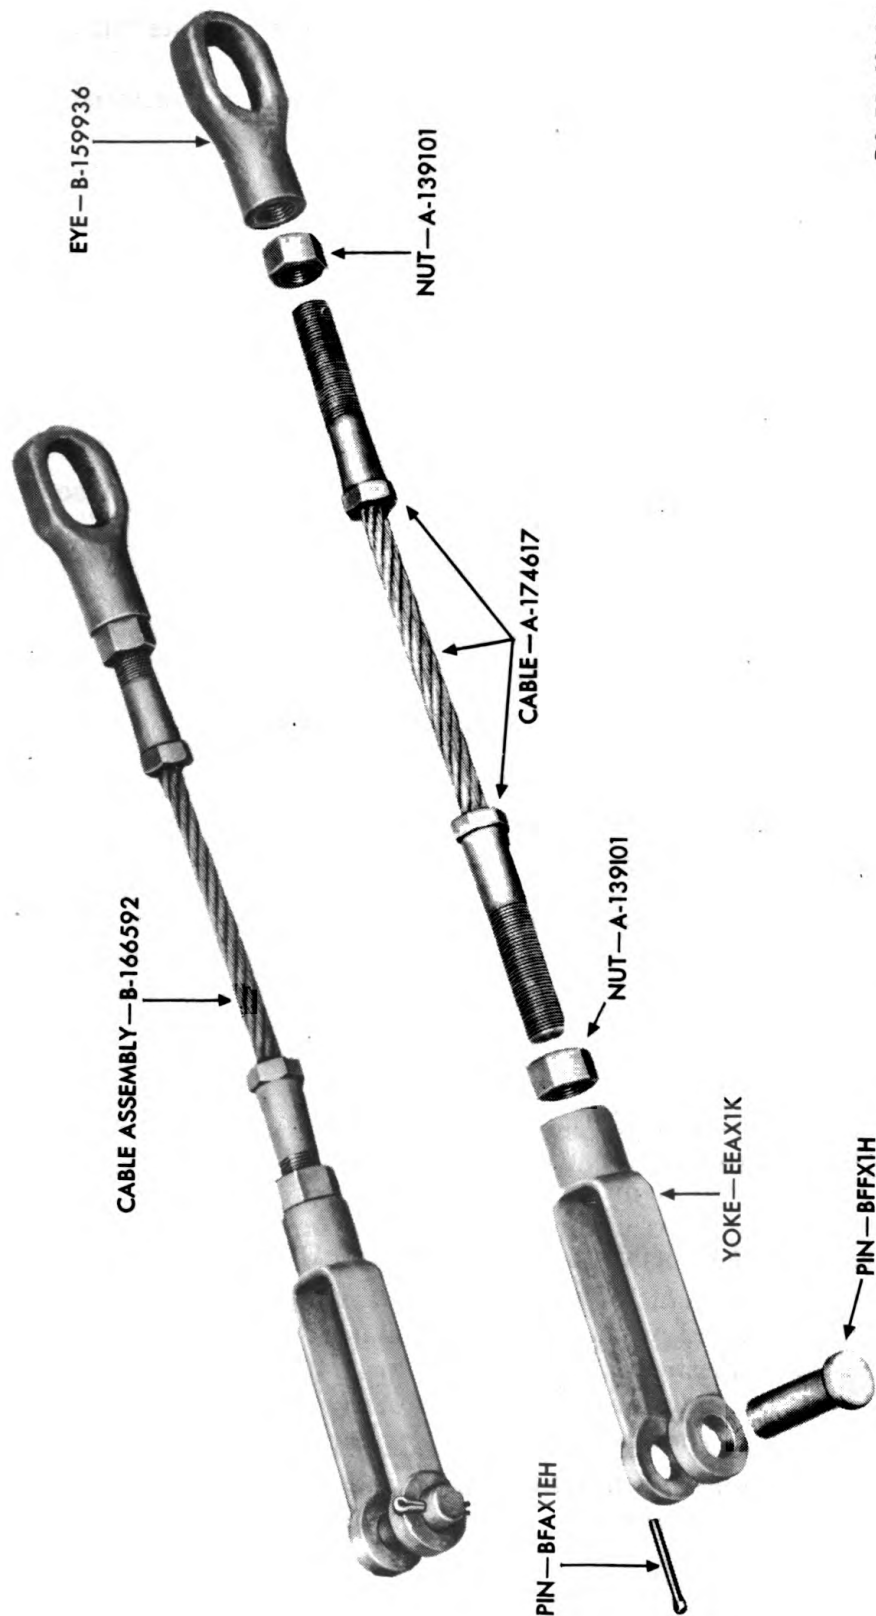

Figure 282 - Wheel Supporting Cable
- (1) Check carefully condition of cables.
- (2) Replace cable having broken strands.
- (3) Replace worn, bent, or damaged yokes and eyes (fig. 282).